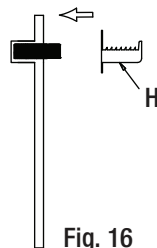

Fig. 16
- Place the stainless steel mounting bracket (H) on the brass connector assembly and adhere upright to the wall, see Fig. 16.